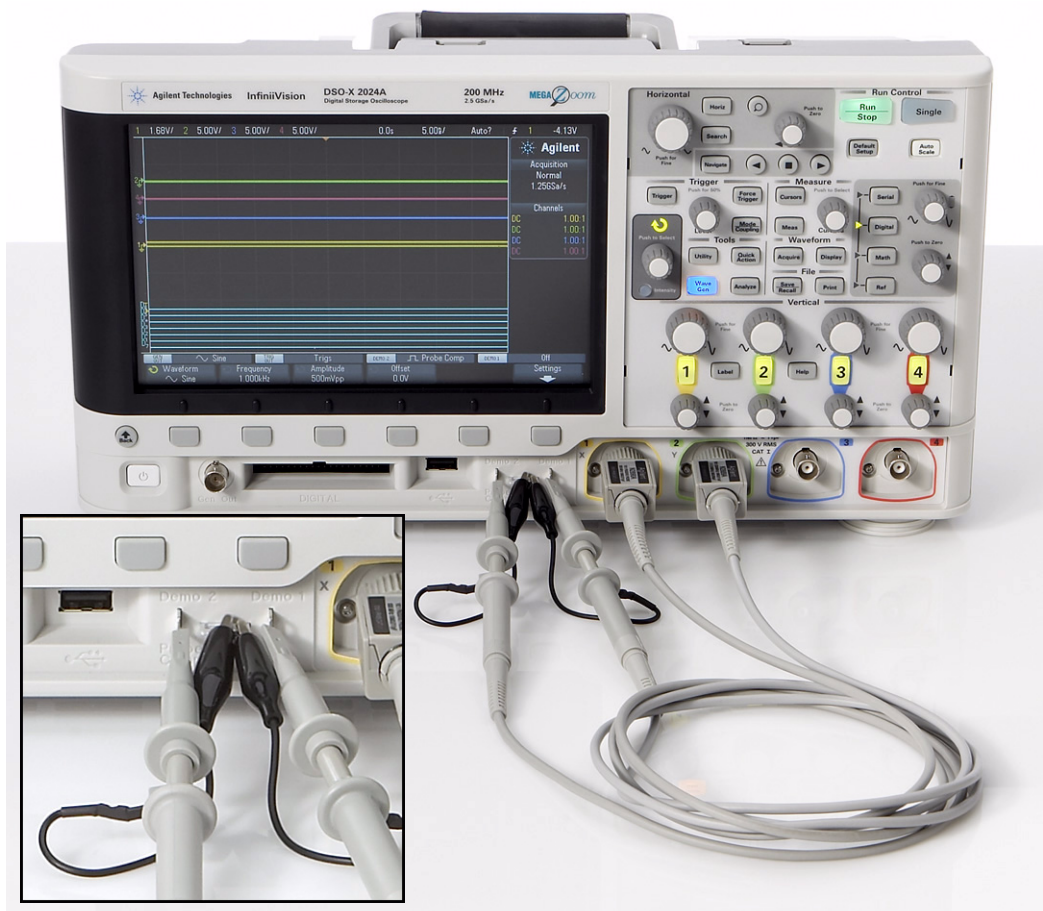

Figure 8 Connecting probes between the channel-1 and channel-2 inputs to the training signals output terminals
- 1 Connect one oscilloscope probe between the channel-1 input BNC and the output terminal labeled “Demo1” as shown in Figure 8. Connect this probe's ground clip to the center terminal (ground).
- 2 Connect a second oscilloscope probe between the channel-2 input BNC and the output terminal labeled “Demo2” as shown in Figure 8. Connect this probe's ground clip to the center terminal.